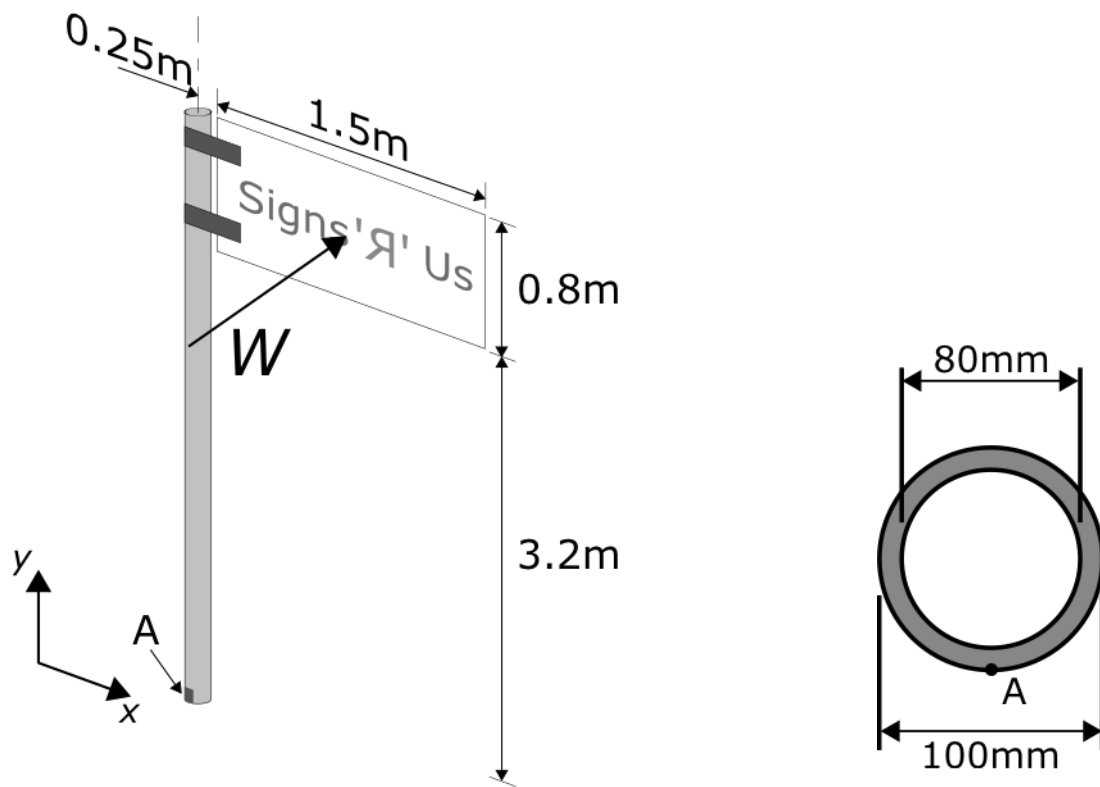

Figure Q1
1. A sign is supported on a post with an outer diameter of 100mm and an inner diameter of 80mm as shown in Figure Q1. A wind pressure of 2kPa acts on the sign.
- (b) Calculate the magnitude of the torque and bending moment caused by W about point A shown in Figure Q1. [4 marks]